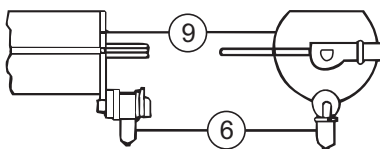

Figure 4
2. Glue the triple valve (6) to the brake cylinder (9) as shown in Figure 4 and glue the brake cylinder to its base. Glue the other brake components onto the underframe and glue the protection frames to the wagon sides, as shown in Figure 3.